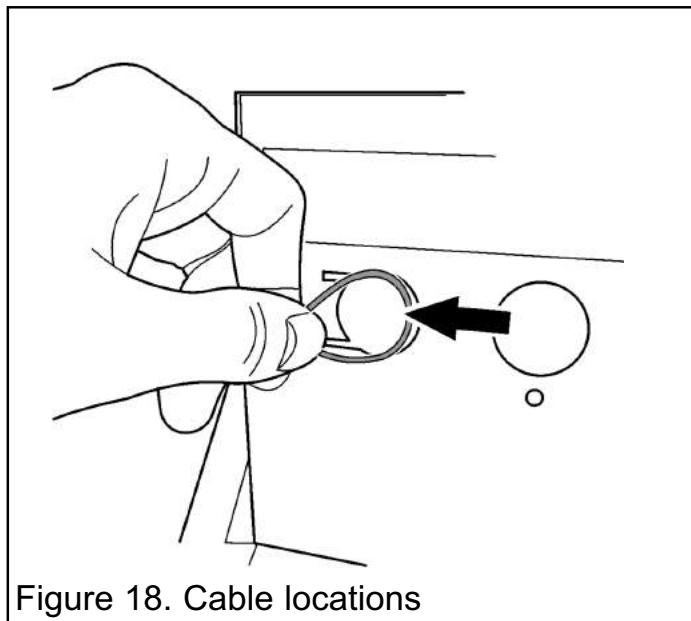

Figure 18. Cable locations
**8.** The convection box has two slots at each side of the flue outlet. Loop one end of each cable and pass the loop into the slots (See figure 18). Give the cables a pull so that they grip.